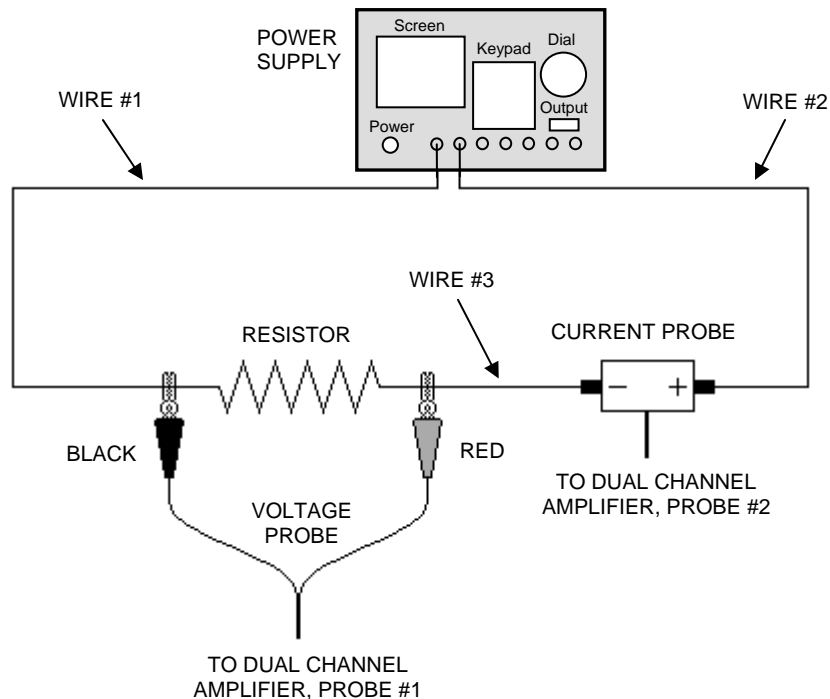

FIGURE 2 - Circuit diagram
Part 1 – The Setup Verify that every item on the **Equipment List** is on your lab table. Note that there are FOUR alligator clips; two coming from the voltage probe and two stand-alone ones. The first thing you are going to do is hook up your own circuit. Before you begin, make sure that the power supply is **TURNED OFF**. You'll be using **Figure 2** on the next page as a guide to set up the circuit. Do the following ...
A) The first thing you should do is set up the main line which starts at the power supply and ends at the power supply. (Worry about the alligator clips for the voltage probe **LAST**. See **Figure 2**.) To set up the main line, use the three wires, the two stand-alone alligator clips (**NOT** the alligator clips for the voltage probe coming from the Dual Channel Amplifier), the brown-bodied resistor, and the small box that has the plus and minus on it (current probe). **See Figure 2**. Use the stand-alone alligator clips on the ends of your wires and then attach the clips to either side of the resistor. [NOTE: It does not matter what color wire you use in any part of the circuit.]
B) Now attach the alligator clips for the voltage probe that are coming from the Dual Channel Amplifier. See **Figure 2**. Notice that the voltage probe is attached "across" the resistor and that the current probe is attached so the current will flow "through" the resistor first and then through the probe.
E) Your TA should go over how to use the power supply but here are the basics. Turn on the power supply using the lower left button called **Power**. See **FIGURE 2**. Give it a second for the software to boot. In order for the power supply to output a voltage, you have to push the **Output** button. See **FIGURE 2**. You can control the output voltage by using the **Dial** or by typing it on the **Keypad**. If you use the **Keypad**, push the **Vset** button, enter your voltage on the keypad, and then push **Enter**. If you are having trouble then grab your TA.